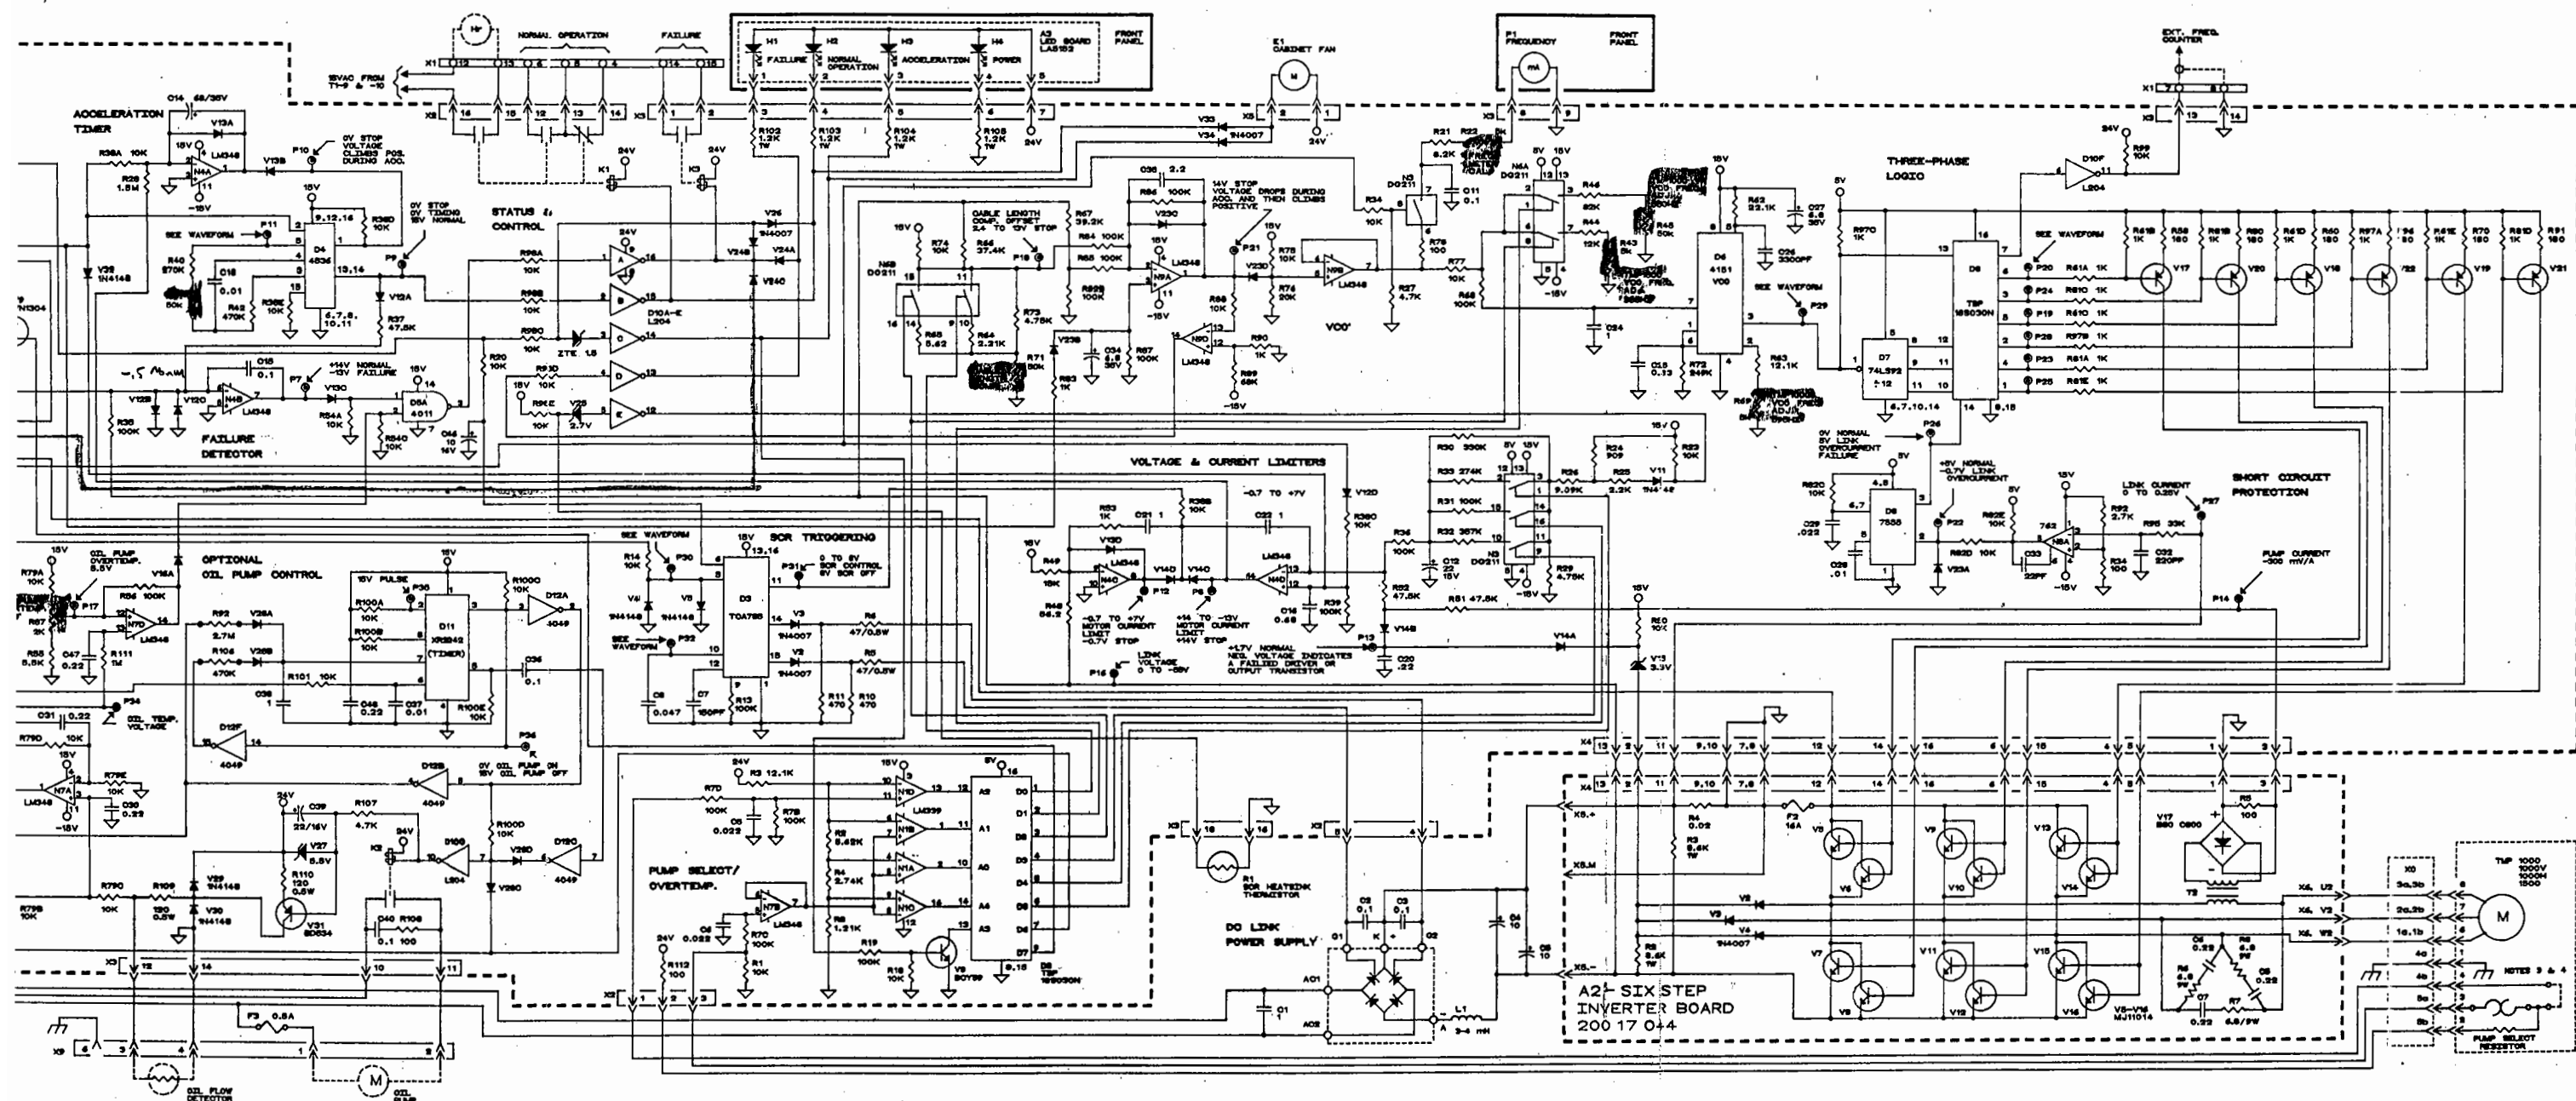

Figure 7-6. NT1000/1500 VH Electrical Schematic
* See the NT1000/1500 VH electrical schematic (Figure 7-6) for component type numbers not listed in this table.